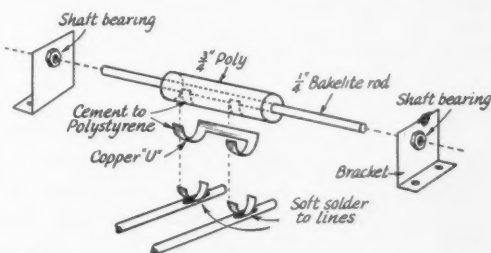

Fig. 2 — Construction and assembly details of the tuning capacitor.
- C_1 —See text and Fig. 2.
The tuning condenser is of the split-stator type with the rotor floating. The stator plates consist of two strips of copper, $\frac{3}{16}$ inch wide by 1 inch long, formed in two arcs and soldered to the tuning rods (see Fig. 2). The rotor uses a piece of $\frac{3}{4}$ -inch diameter polystyrene rod through which is drilled a $\frac{1}{4}$ -inch diameter hole for a bakelite or polystyrene shaft. If desired, the solid polystyrene can be replaced by a $\frac{3}{4}$ -inch diameter coil form by cementing a disc of polystyrene to the open end of the coil form.